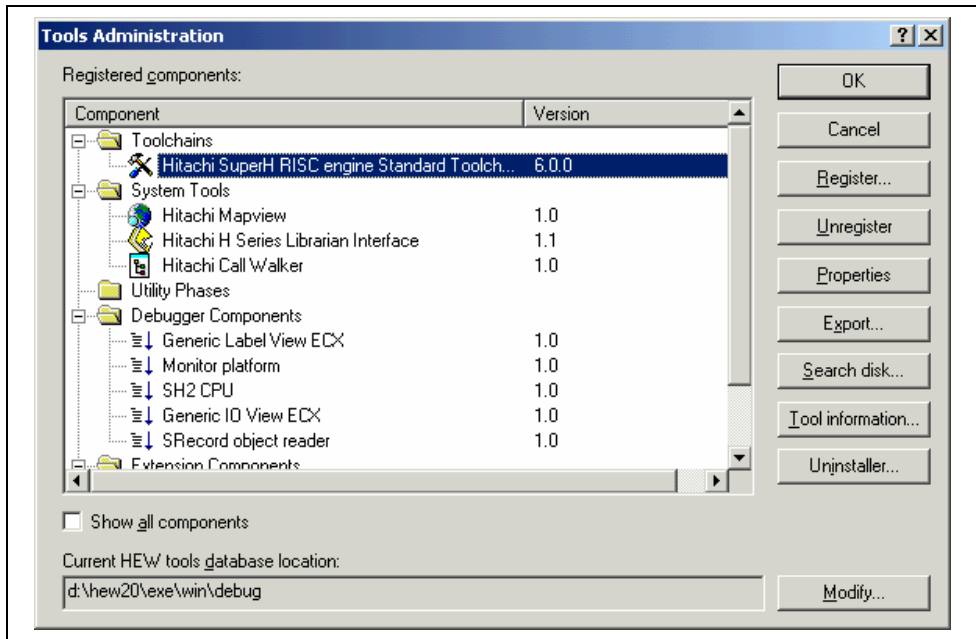
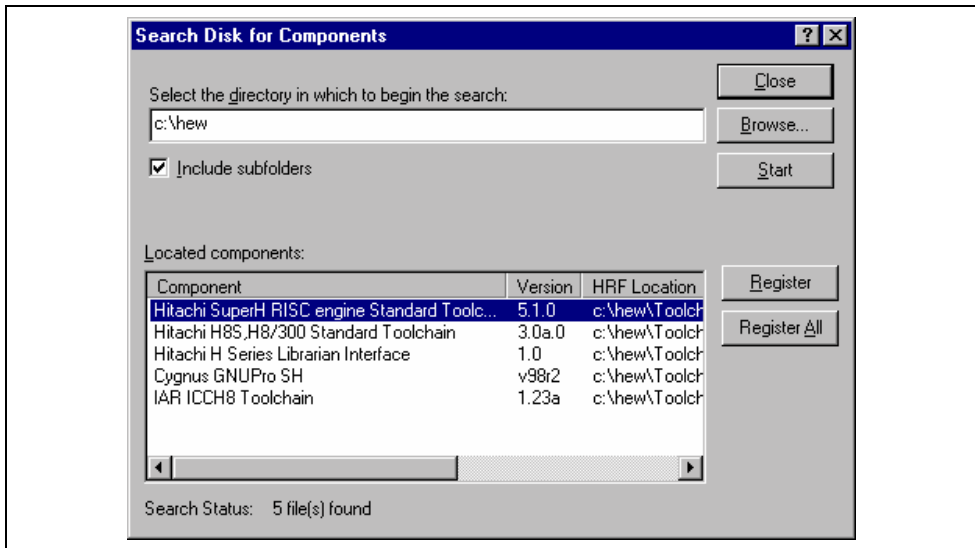

Figure 5.1: Tools Administration Dialog (Example)
Figure 5.3: Search Disk for Components Dialog
You control the components, which can be used by the Hitachi Embedded Workshop via the “Tools Administration” dialog (figure 5.1), which is invoked via [Tools->Administration...]. Modification of the “Tools Administration” dialog box is only possible when no workspace is open, while only reference is possible when a workspace is open.
In order to use a component with HEW it must first be registered. The “Tools Administration” dialog (figure 5.1) shows all currently registered components. To access it, ensure no workspaces are open and then select **[Tools ->Administration...]**. If you attempt to access tools administration when there is a workspace open the tools administration dialog is opened but cannot be modified. When HEW is installed by default any new tools are automatically registered.
1. Click the “Search Disk...” button on the “Tools Administration” dialog (figure 5.1). The “Search Disk for Components” dialog will be displayed (figure 5.3).